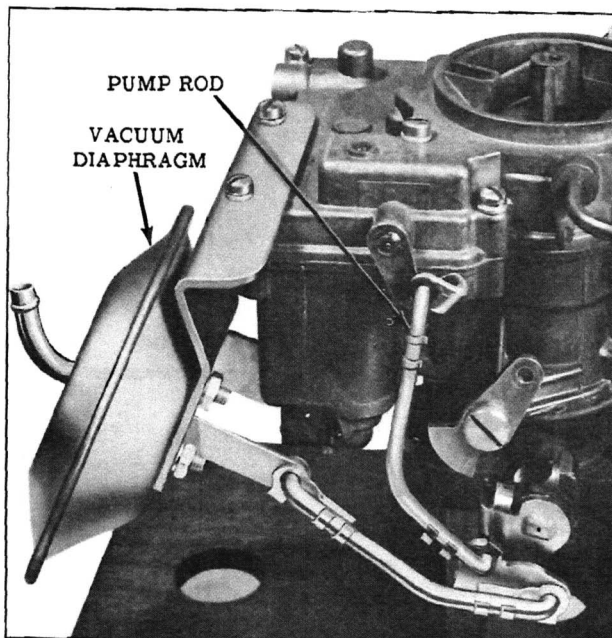

Fig. 17 Vacuum Diaphragm (Front Carburetor)
3. (Front Carburetor Only). Disconnect vacuum diaphragm link from throttle lever. Remove vacuum diaphragm by removing two air horn screws. (See Fig. 17)